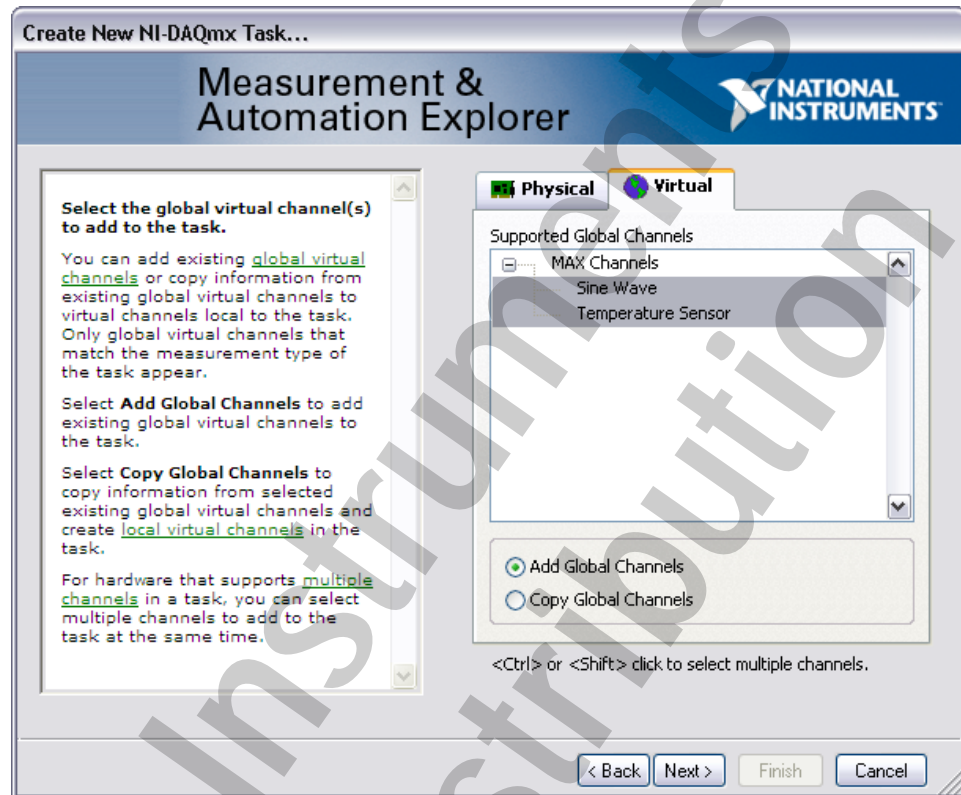

Figure 2-7. Adding Global Virtual Channels to NI-DAQmx Task
- ☐ Press and hold the <Shift> key and select both channels, as shown in Figure 2-7.